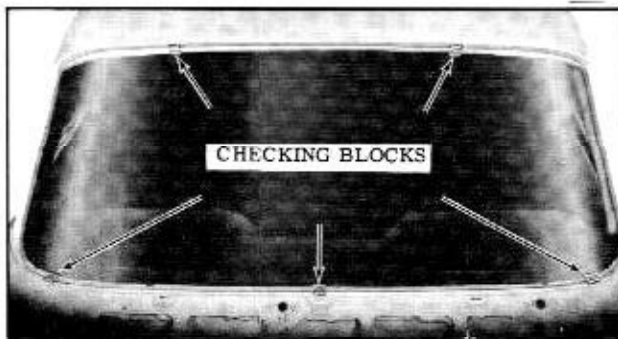

Fig. 17-7 Windshield Opening Check
4. Install 5 windshield checking blocks to pinchweld flange. (Fig. 17-7) Position one block over lower pinchweld flange on each side of body 12" inboard from the lower corner of windshield opening. Position one block over upper pinchweld flange midway between center block and each outboard block on lower retaining flange.